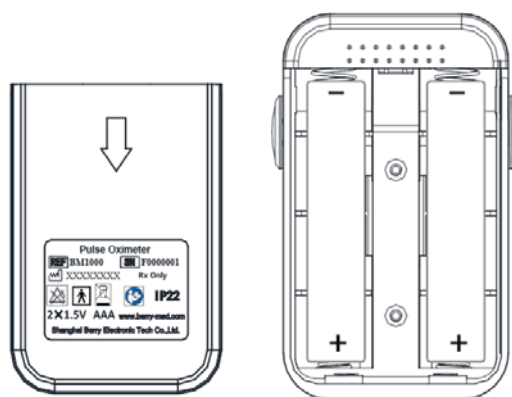

Figure 3
2. Install batteries into the slots according to the "+" and "-" symbols as shown in **Figure 3**.